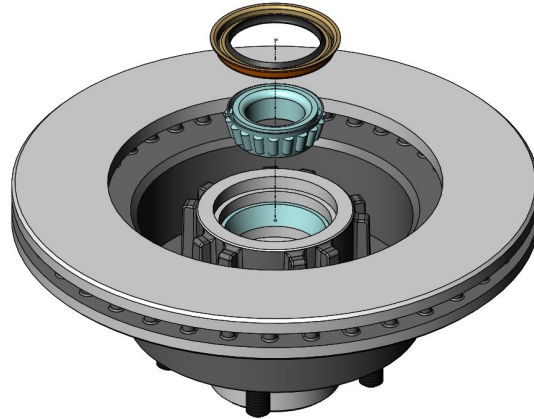

Figure 2 – Inner Wheel Bearing Installation
5. The wheel bearings can now be packed with a high quality wheel bearing grease available at your local parts store and the bearings can be installed in the rotors at this time. Once the inner bearing is installed, tap the inner seal in at this point. Figure 2 shows the bearing and seal being installed.